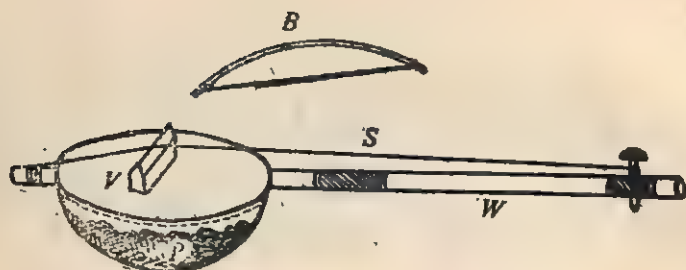

Fig. 5.15. (a) Iktara or monochord.
**Construction and Working.** It is an instrument in which one metallic string  $S$  is kept taut, as in sonometer, as shown in Fig. 5.15 (a). The string is set into vibrations with a bow  $B$  shown in Fig. 5.15 (b).  $P$  represents a sound box, the purpose of which is to increase the intensity of sound produced. One end of vibrating portion of the string is fixed at the wedge  $V$  and its other end is at the position where the player puts his or her finger. When the player bows the string near the wedge  $V$ , by keeping his or her finger at some position of the string, it is set into vibrations and thus the string produces overtones which is nothing but the "musical sound". By moving the position of the finger up the string, thus effectively shortening the string, musical sound of higher notes are produced. Cheap models of toy Iktara, which toy sellers sell in cities and villages, are very popular among children.